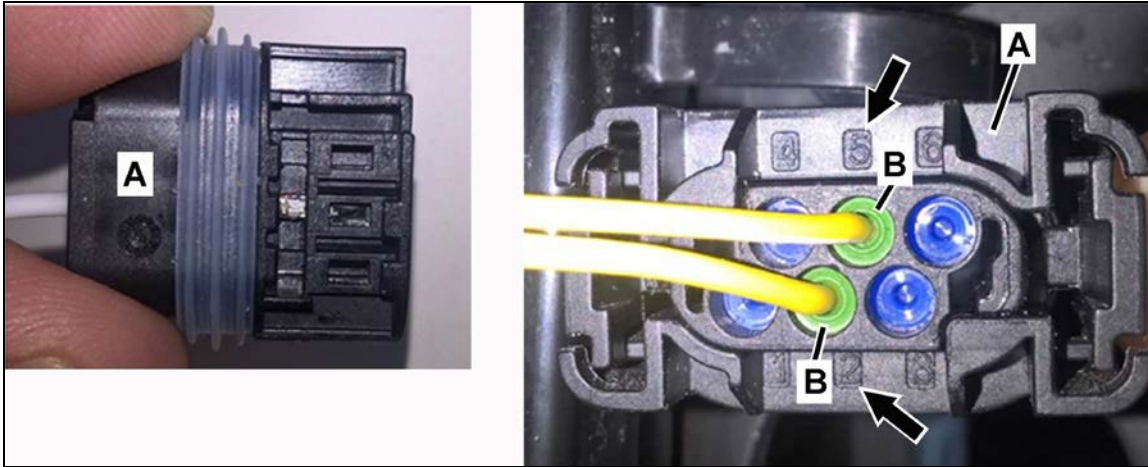

Figure 5
7. Unpin contact sockets from slot 5 and 2 (arrows, Figure 5) and pull wire carefully out of plug housing (A) and inspect contacts: